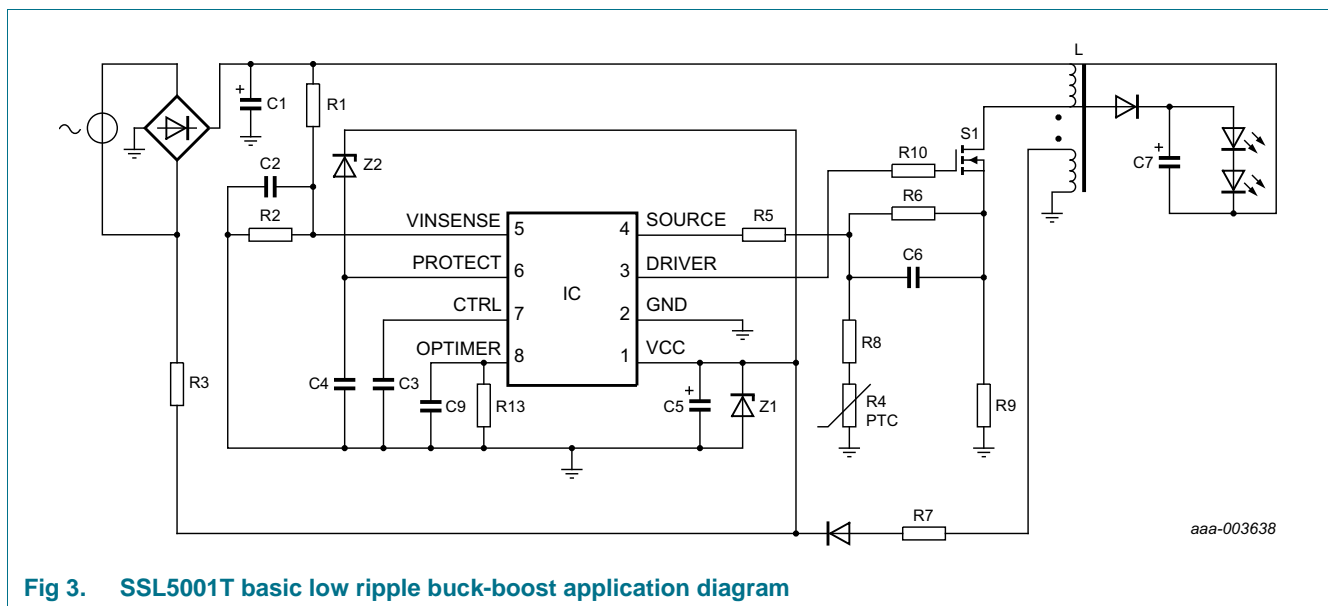

Fig 3. SSL5001T basic low ripple buck-boost application diagram
- Low component count (see Figure 3) LED driver solution:
The converter in the SSL5001T is a low-cost fixed frequency, peak current controlled system. See Figure 3 for the basic application diagram. See Figure 5 for the waveforms. To reduce ElectroMagnetic Interference (EMI), frequency jitter has been implemented.